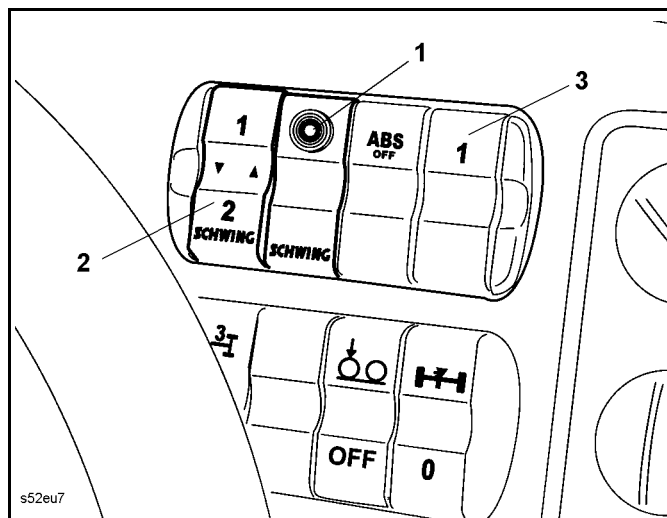
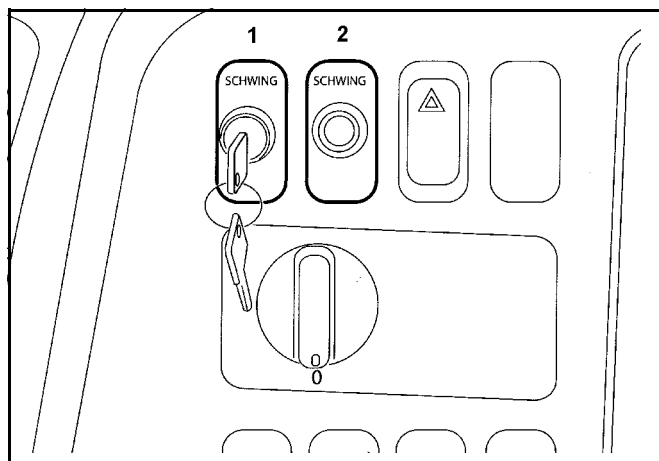

Fig. 118 Cab toggle switch
Fig. 119 Cab key-operated switch
Toggle switch (2) (**Fig. 118**) or key-operated switch (1) (**Fig. 119**).
- Switch on the outrigger lighting, if necessary, e.g. by using the toggle switch (3) (**Fig. 118**).